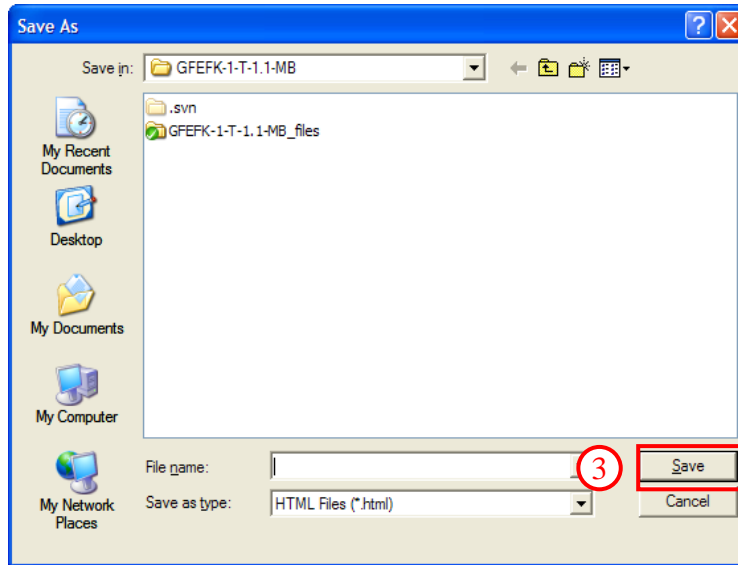

Figure 58. Student Report - Save As Dialog
3. A Save As dialog is displayed (Figure 58). Navigate to the desired save location, enter a File name and click the [SAVE] button.